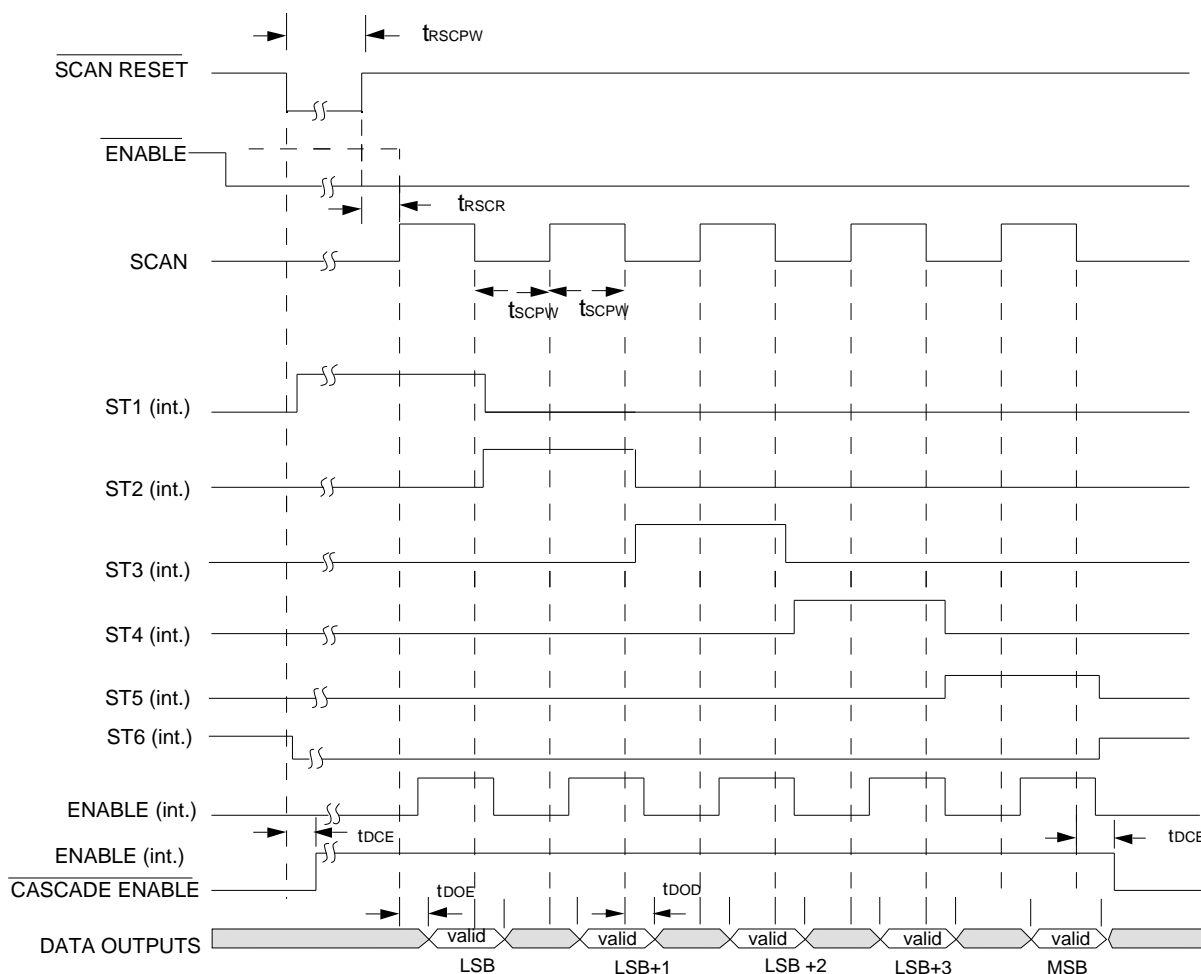

FIGURE 3. SCAN COUNTER & DECODER OUTPUTS TIMING DIAGRAM
**DYNAMIC ELECTRICAL CHARACTERISTICS:** (Refer to Figure 3, Timing Diagram)